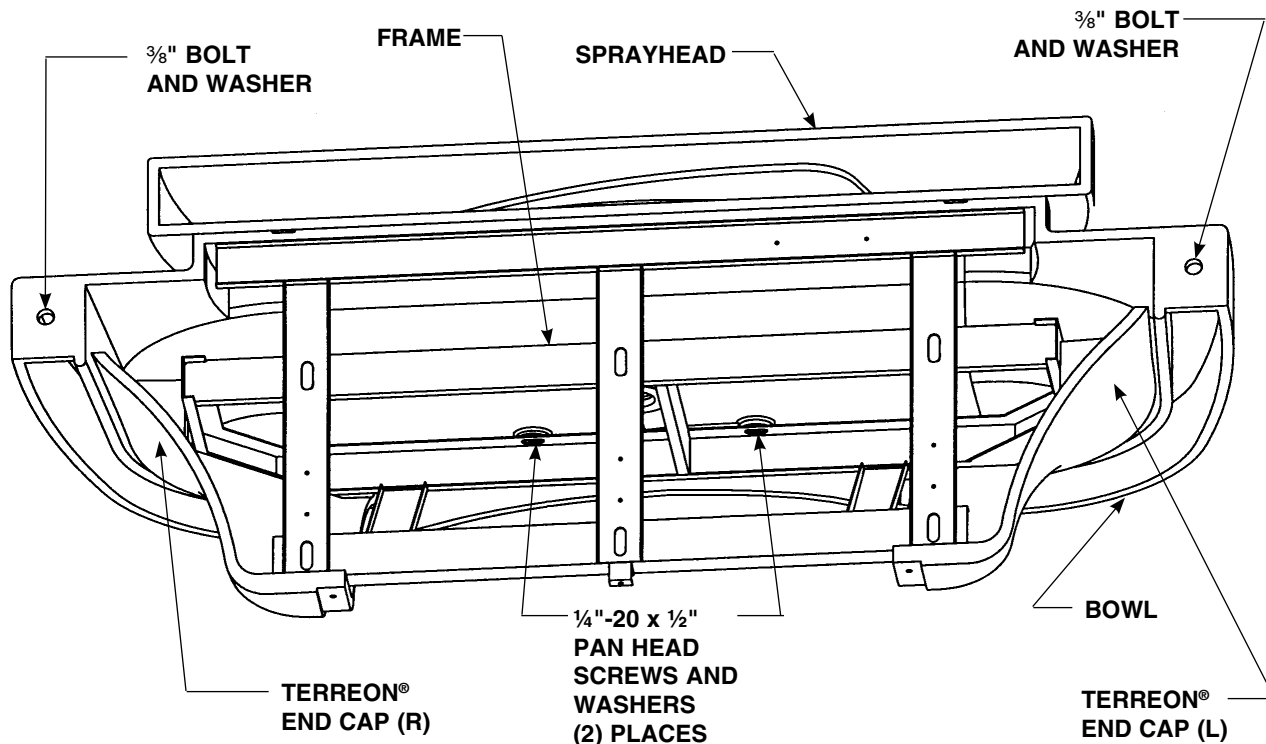

Figure 4
**⚠ IMPORTANT:** See Figure 4 below when installing the bowl assembly. If the fixture has soap option, refer to the soap installation manual 215-1585 before installing the bowl assembly.